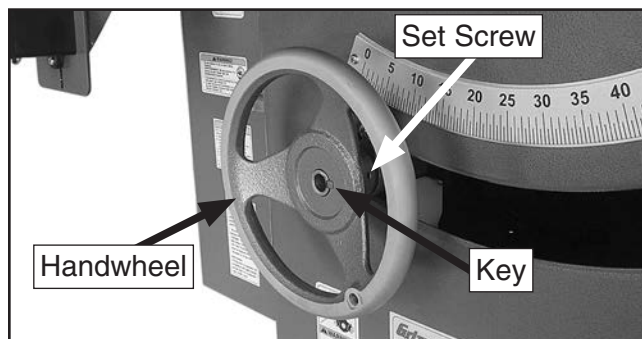

Figure 22. Blade height handwheel installed.
16. Place included shaft key into keyway on handwheel shaft, slide handwheel onto shaft, then tighten set screw on side of handwheel (see **Figure 22**).